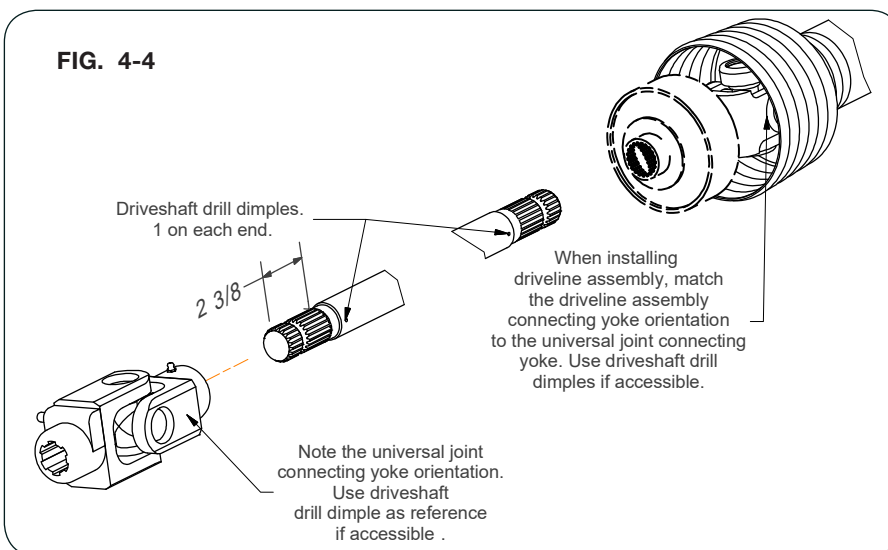

FIG. 4-4
10. Slide driveshaft down into the universal joint attached to the gearbox until the end of the shaft extends into the universal joint about 2 3/8". Ensure universal joint and driveshaft splines completely engage. Verify the hitch end for adequate length for driveline assembly to connect. (FIG. 4-4)